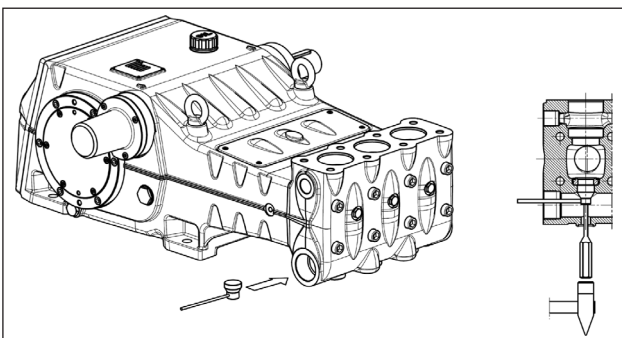

Fig. 113
If removing the suction valve unit proves to be particularly difficult (for example because of incrustations due to prolonged inactivity of the pump), use the extractor tool (code 27516200 (for LK36-LK40-LK45) or code 27516300 (for LK50-LK55-LK60)(pos. ①, Fig. 113) as indicated.